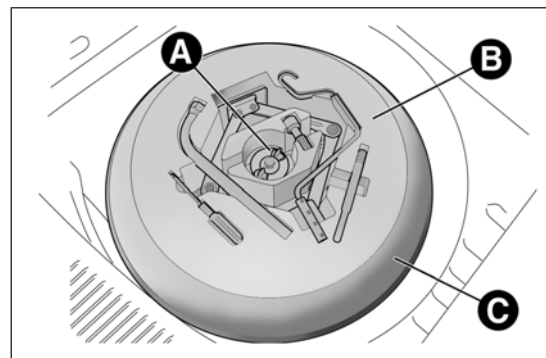

fig. 114
- ☐ unscrew locking device A fig. 114, take toolbox B and bring it next to the wheel to replace. Then take the space-saver wheel C;